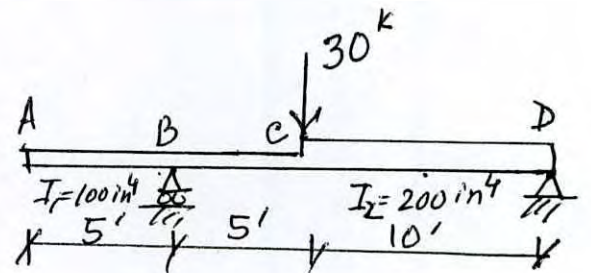

Fig. 5
6. Compute change in slope at "D" of the beam shown in Fig. 5. Given: $E = 30,000 \text{ ksi}$, $I_1 = 100 \text{ in}^4$ (Member ABC), $I_2 = 200 \text{ in}^4$ (Member CD). (28)